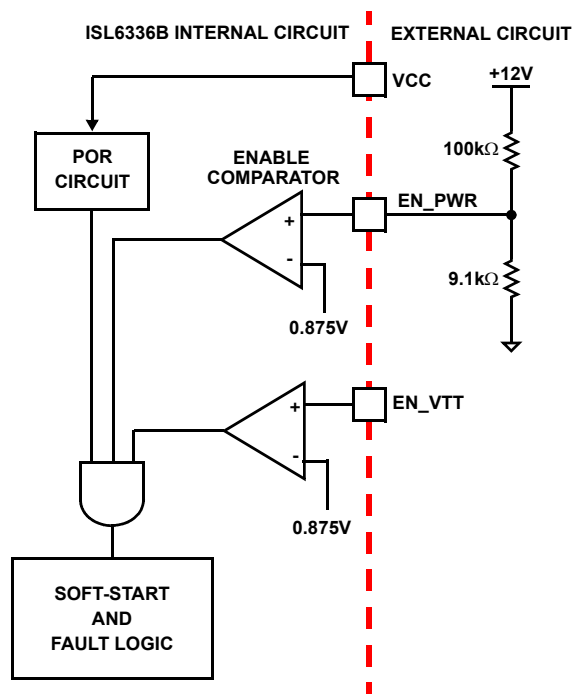

FIGURE 8. POWER SEQUENCING USING THRESHOLD SENSITIVE ENABLE (EN) FUNCTION
2. The ISL6336B features an enable input (EN_PWR) for power sequencing between the controller bias voltage and another voltage rail. The enable comparator holds the ISL6336B in shutdown until the voltage at EN_PWR rises above 0.875V. The enable comparator has about 130mV of hysteresis to prevent bounce. It is important that the driver ICs reach their POR level before the ISL6336B becomes enabled. The schematic in Figure 8 demonstrates sequencing the ISL6336B with the ISL66xx family of Intersil MOSFET drivers, which require 12V bias.